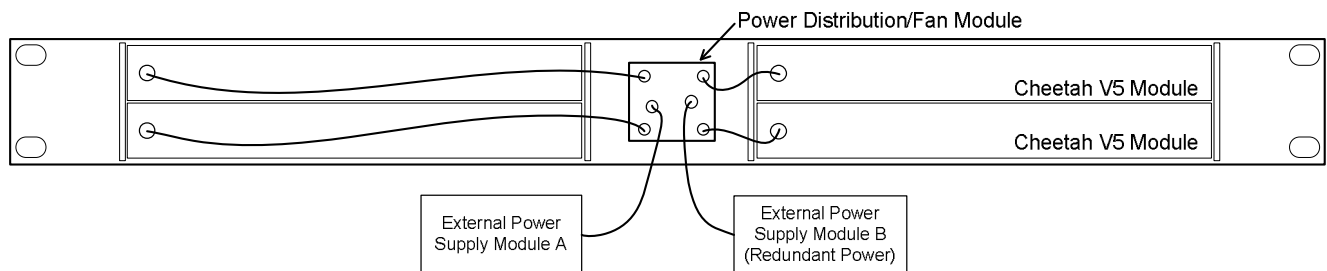

Figure 1. Extender Frame Rear View
As shown in Figures 1 and 2, V5 modules are installed from the rear of the chassis and secured using the captive thumbscrews on the front of the chassis. It is easier, though certainly not a requirement, to install modules into the extender frame chassis before mounting the frame in the equipment rack. Install modules as follows:
- Slide each V5 module into the desired mounting slot of the extender frame as shown in Figure 1.
- Install a power pigtail cable between any of the four power output connectors and the input power connector on each V5 module as shown in Figures 1 and 3.